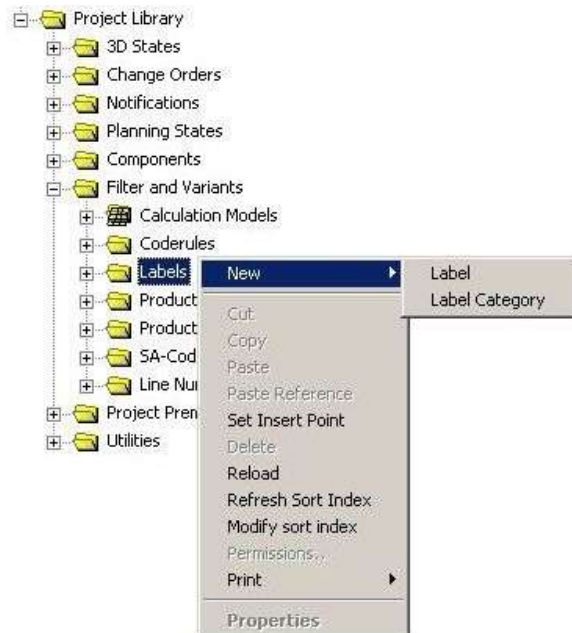

Figure 77: Creating New Labels and Label Categories
- 1) Open the project library and select under filter and variants the **Label** entry. Select **New** in the contextual menu and then select the object, which you want to create. Please refer to the Figure 77.
A label is created in the project library. Please refer to the Figure 77.
Like the label, a new label category is created with the contextual menu in the project library. *Please refer to the Figure 77.*